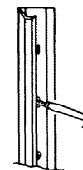

FIGURE 16
5. Remove screws retaining handle. See Figure 16. Handles will easily fall away. If you have a conventional model skip to step number 10. If you have a dispensing model proceed with step number 6.